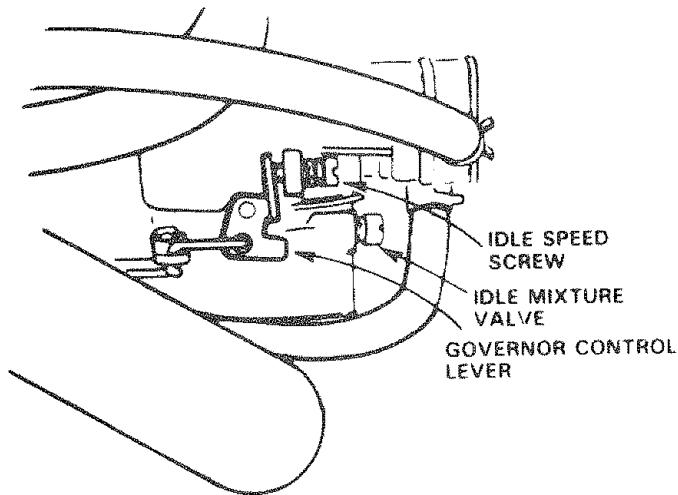

FIGURE 29
- d. Hold governor control lever against idle speed screw, and adjust idle speed screw to obtain 1200 to 1400 RPM (Fig. 29).